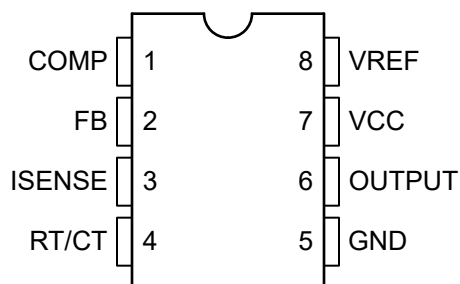

Figure 4-1. Pin Diagram (SOIC (8)) Package
4.1 SOIC (8) Package
Figure 4-1 shows the UCx84xA pin diagram for the SOIC (8) package. For a detailed description of the device pins, see the *Pin Configuration and Functions* section in the UCx84xA data sheet.